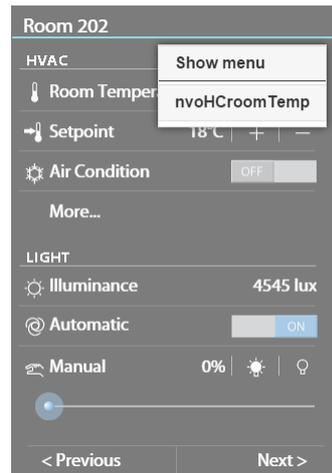

Figure 233: Data Point Context Menu
- **Context menu for data points:** If this checkbox is enabled, you can click with your right mouse button on a control to view data point details. A context menu is displayed listing the attached data points (see Figure 233). Select the name of the data point for which you want to inspect the properties as shown in Figure 234.